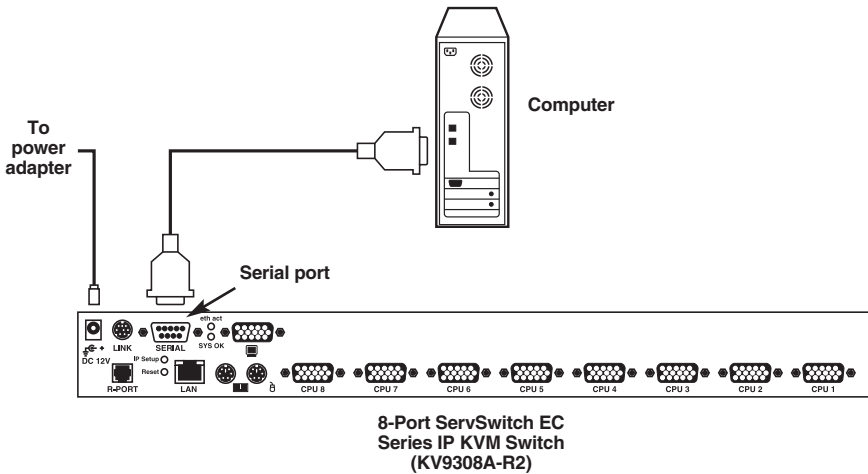

Figure 3-5. Connecting a computer to the ServSwitch unit's serial port.
1. Connect the DB9 RS-232 null-modem serial cable to the serial port on the ServSwitch unit's rear panel. Connect the opposite end of the cable to the computer's serial port (COM1, COM2, etc.). See Figure 3-5.